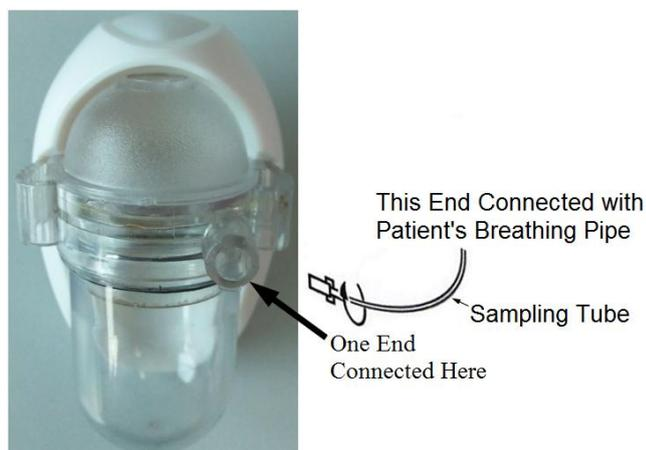

Figure 6.29 Dewatering Bottle Connecting Diagram
3. As shown in Figure 6.29, connect one end of the sampling tube with the dewatering bottle's threaded nipple and the other end with the breathing tube of the animal's breathing machine or anesthesia machine or with the threaded nipple having a diameter of  $\phi 10\text{mm}$  in other airways (a section of connecting tube having a  $\phi 10\text{mm}$  threaded nipple needs to be connected if such source nipple is not available), or directly fixing the sampling tube to the animal's nostrils by using adhesive tape.